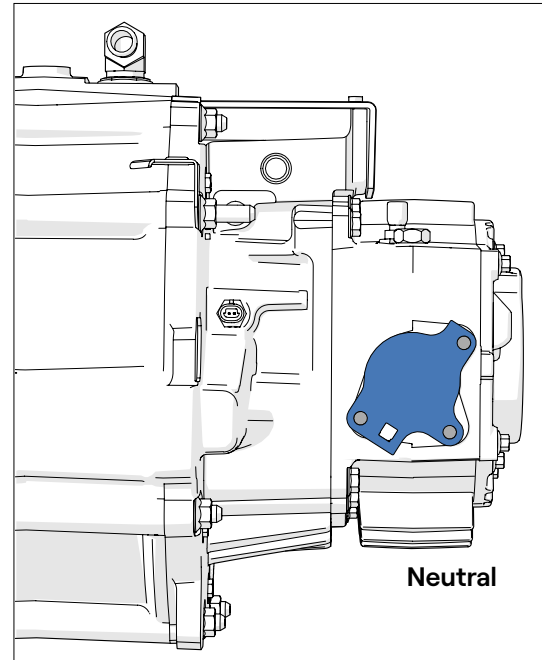

Figure 10 - E-axle towing tool in neutral position
3. Shift axle to neutral using a 3/8" ratchet to rotate the shift tool ± 30 degrees as required to line up the bolt holes of the tool with the housing holes. When the tool holes line up with the housing holes, the axle is in neutral (**Figure 10**).